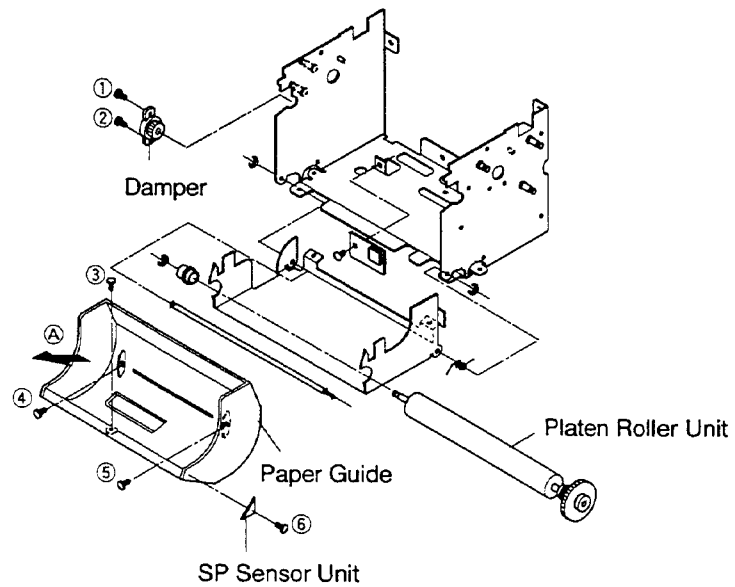

Fig. 12
2. Remove 2 screws (① and ②) securing the Damper shown in Fig. 12 and remove the Damper.
3. Remove 3 screws (③, ④ and ⑤) securing the Paper Guide shown in Fig. 12 and remove the Paper Guide in the direction of the arrow (A).
4. Remove 1 screw (⑥) securing the SP Sensor Unit shown in Fig. 12.